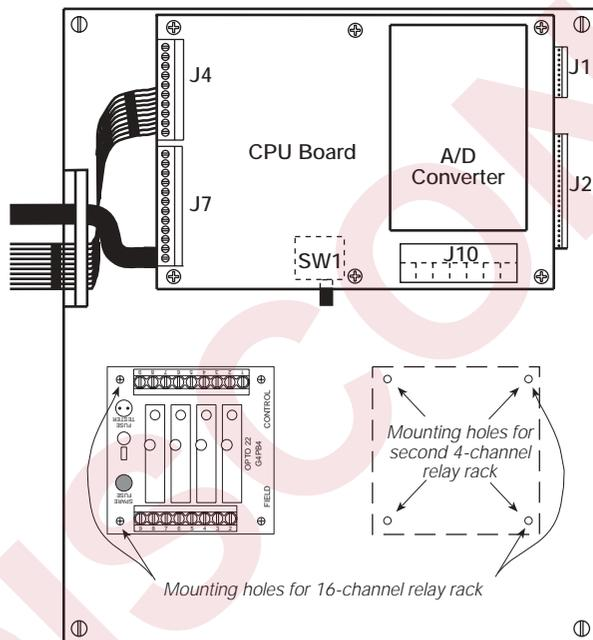

Figure 9-17. SS/HE Panel-Mounted 4-Channel Relay Rack
- On the SS and HE models, the relay board is mounted in pre-drilled holes in the panel holding the main CPU board (see Figure 9-17). For an 8-channel system, two 4-channel racks can be mounted side by side in the SS or HE models as shown in Figure 9-17.